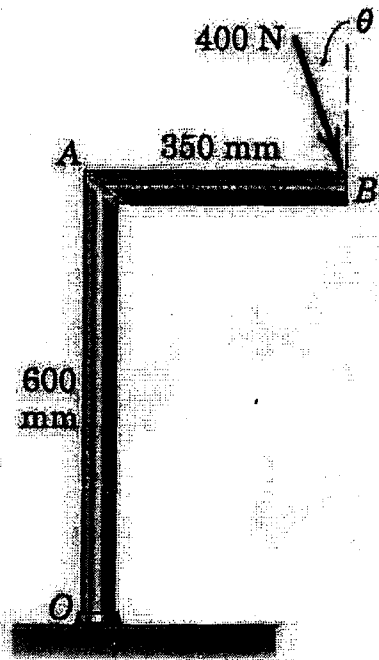

Fig.1.
1. A 400 N force is applied to a welded slender member having negligible self weight (Fig.1). The member is fixed to the floor at O. Fill in the blanks: (2+2+1)